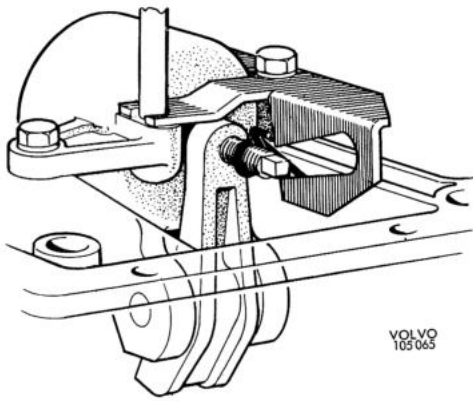

Fig. 4-118. Self-adjusting spring bolt cam
27. Adjust the location of the spring on the adjusting screw. It should be 1—2 threads from the lever. Remove the torque wrench and spacer block. Fit the cam. The long end of the spring sticks into the cam, see Fig. 4-118.
- B. Push the stop bracket forwards so that it comes 1/8—5/32" (3—4 mm) from the lever see "A" Fig. 4-118. Tighten the bracket in this position.